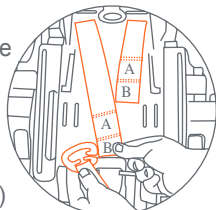

Fig. 29-2
5. Turn the seat over. Locate the Belt Adjuster Plate near the bottom of the seat. (Fig. 29-2) Remove both Harness Straps from the Belt